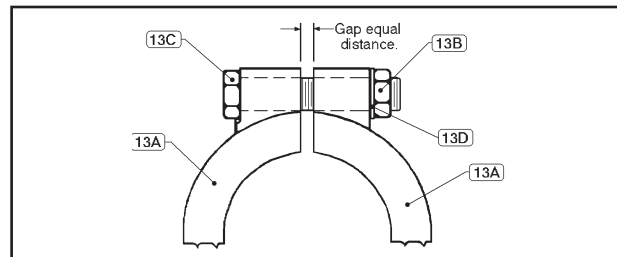

Figure 1: Clamp Arrangement.
5. Loosen thumbclamp screw (13) and remove. **For Opt-80:** 2 piece clamp (13A): Loosen and remove clamp nuts (13B), washers (13D), bolts (13C) and clamps (13A). See Figure 1.
6. Place matchmarks between body (1) and spring chamber(2) to assist in final orientation when reassembled.
7. Lift spring chamber (2) vertically up and off guide post (18) and body (1) and set aside. *NOTE alignment of spring button (4) tab (ears) with slot guides inside spring chamber (2).*
8. Remove bearing seal (22). Lift up to remove adjusting screw assembly (5), spring button (4) and spring (7) off guide post (18).
11. Slide adjusting screw cap (5.1) with new u-cup seals (5.4) and adjusting screw (5.3) together, use the dowel pin (5.2) for alignment. *NOTE; Top end of pin (5.2) should be flush with top surface of adjusting screw cap (5.1).* Place new seal (22) on adjusting screw cap (5.1). Set parts aside for final assembly later.
12. Remove set screw (19) rotate CCW. Rotate guidepost (18) CCW and remove.
NOTE: Gap between clamp (13A) halves should be equal in size. See Figure 1.